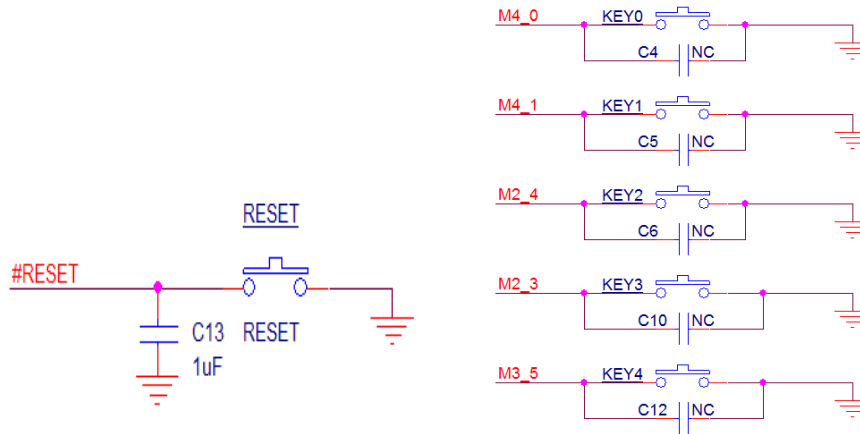

Figure 1-9 Schematic of Keys
- 3) **Mark 18:** RESET key and 5 independent keys, as shown in Figure 1-9.